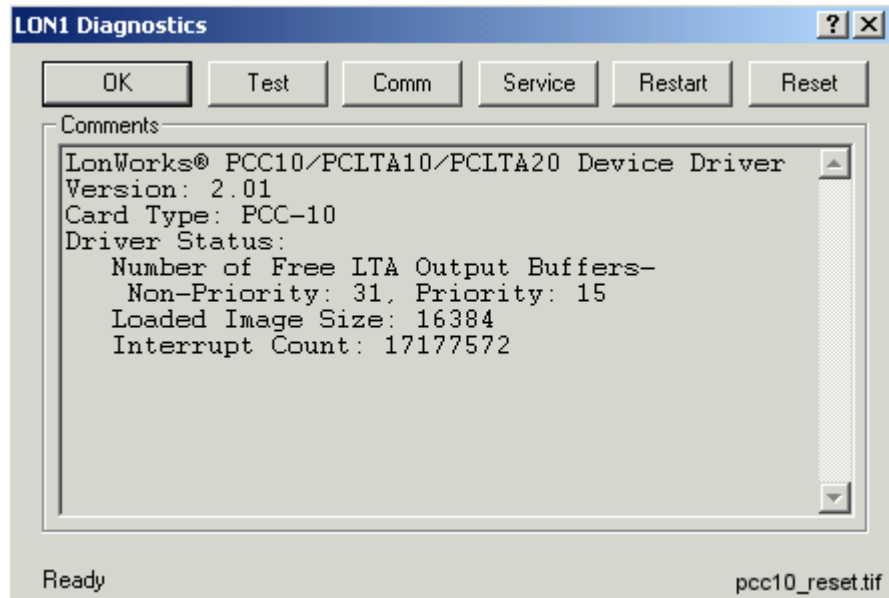

Fig. 4.6.3.2.-3 Some basic diagnostics information available indicating that the device driver has been started and can be configured
14. On the LonWorks® Plug'n Play control panel Figure 4.6.3.2.-1 above), click the Diagnostics... button to open the Diagnostics dialog shown below.